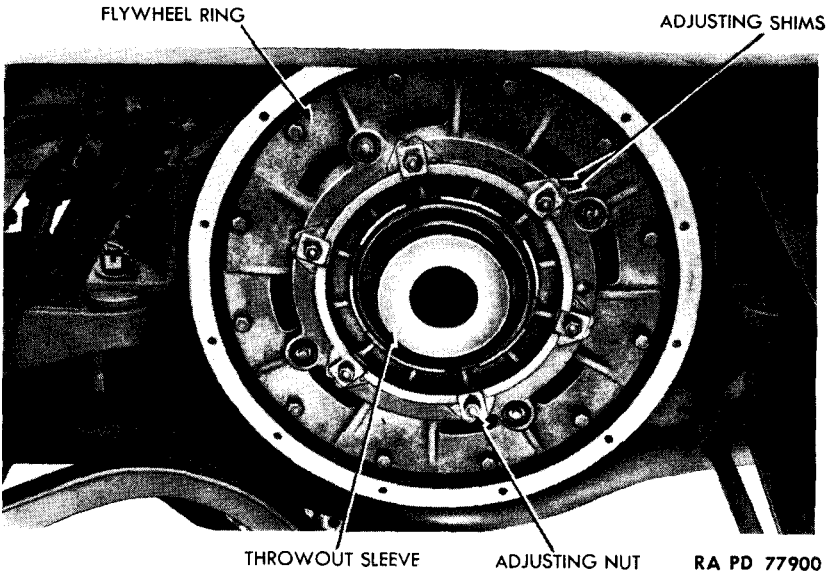

Figure 25 – Clutch Installed – Transmission Removed
a. Description (fig. 25). The clutch, located between the engine and transmission is the heavy-duty, single plate, dry-disk type. The clutch disk is positioned between the face of the engine flywheel and the clutch pressure plate assembly.
Remove blocking from disengaging lever, which will move clutch throw-out sleeve back away from shims. Remove shims as necessary to obtain $1\frac{1}{8}$ - to $1\frac{3}{16}$ -inch clearance between faces of clutch throw-out sleeve and flywheel ring (fig. 25). **NOTE:** Removing one shim from each pack will reduce clearance $\frac{7}{64}$ inch. To secure full contact between pressure plate and driven plate, always remove or install the same number of shims from each pack. Test contact of trunnion fork throw-out levers against trunnion lugs by inserting feeler gage between each lug and lever at the same time. Levers must engage lugs evenly at both sides, and, if necessary, can be bent to engage evenly.